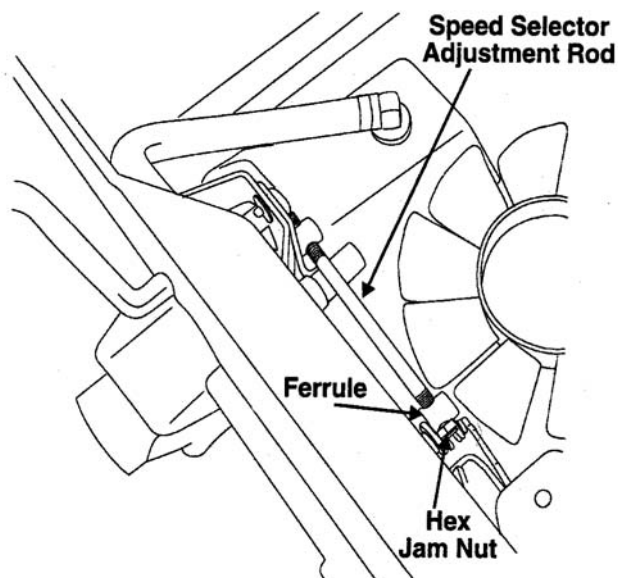

Figure 4-66.
3. Loosen the hex jam nut on the speed selector adjustment rod. See figure 4-66.